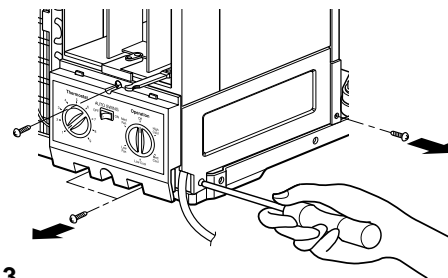

Figure 3
2. Pull the base pan forward so that you can remove the 2 screws which fasten the cover control at the right side. (See figure 3)
3. Remove the 3 screws which fasten the control box. (See figure 3)
7. Re-install the components by referring to the removal procedure. (See figure 3)